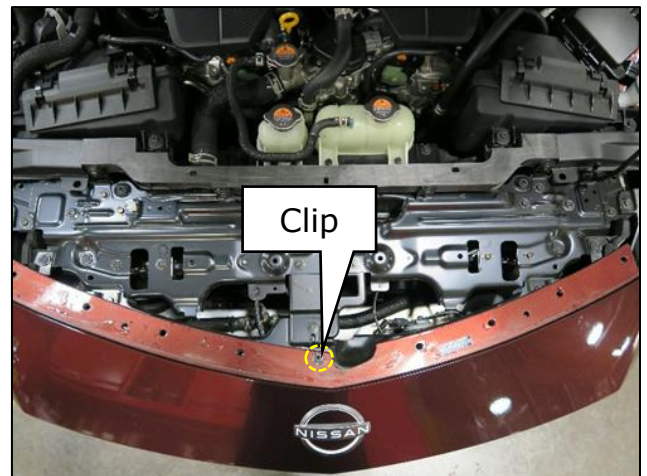

Figure 9
- Remove the (1) remaining clip securing the front bumper to the upper radiator core support (Figure 9)